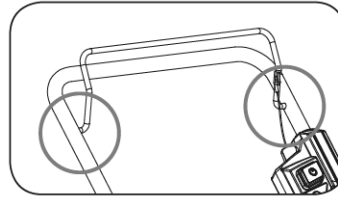

Figure 15
1. Lubricate pivot points on the blade and drive controls at least once a season with light oil. These controls must operate freely in both directions. (See **Figure 15**)